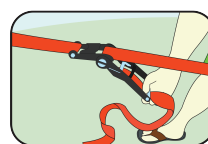

Figure 6
- Taking up ALL the slack, make sure that the line is not twisted. YOU MUST PULL THE LINE TIGHT BEFORE USING THE RATCHET (Figure 6).